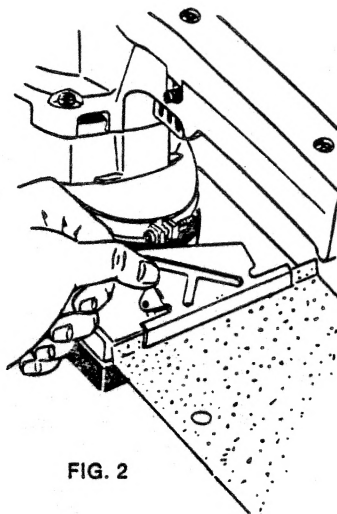

FIG. 2
3. Press the rear clamp (the one nearest to the cord) and insert the abrasive paper (Fig. 2)